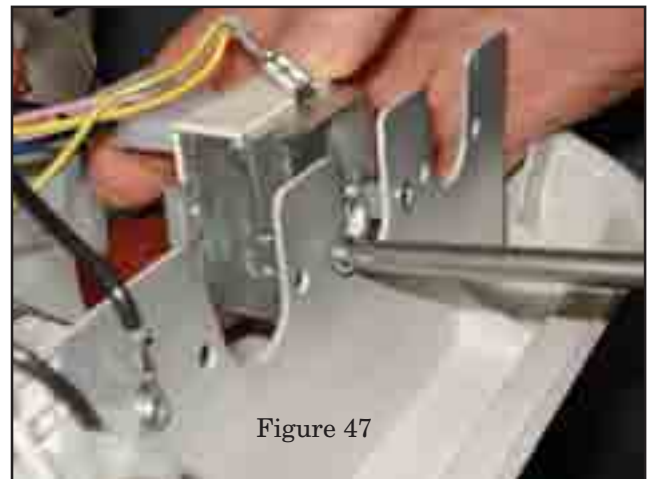

Figure 47
2. Remove the existing auto-reset water temperature limit and discard the screws. See Figure 47.